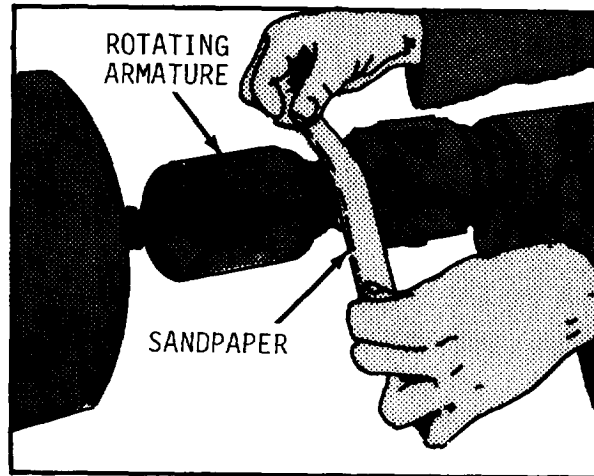

Figure 5-15. Polishing commutator surface.
(2) After undercutting, remove carbon and mica particles with compressed air. Remove burrs left by undercutting: hold strip of 5/0 sandpaper against commutator while armature rotates in lathe at approximately 2,000 rpm (fig. 5-15).
(3) Set up dial indicator gage, and measure accuracy of finished commutator. The total indicated runout shall not exceed 0.001 inch, and variations between any two adjacent commutator bars shall not exceed 0.0002 inch.